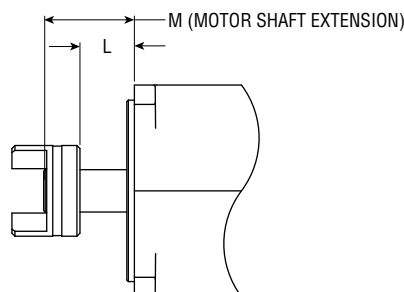

Figure C2
1. Mount the motor coupling hub, Item **2**, onto the motor shaft to Dimension L (see Figure C2).